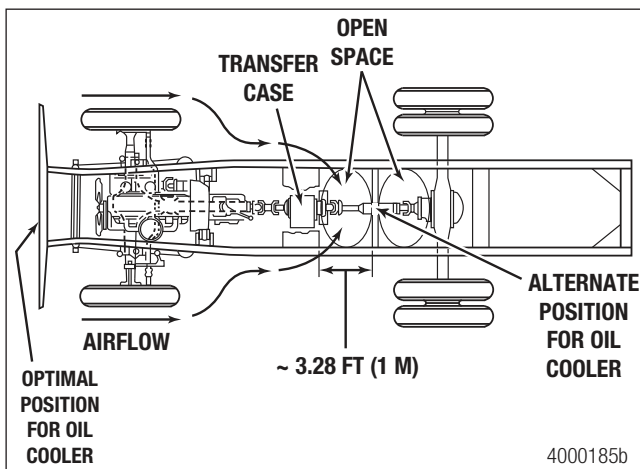

Figure 1
Check the vehicle equipment manufacturer recommendations for oil cooler placement before mounting the cooler. The suggested airflow rate through the heat transfer media is 1,000 FPM. Additionally, the oil cooler should not have any objects located immediately in front of or behind the oil cooler that could reduce air flow through the cooler. Figure 1.
4. Mount the oil cooler. Refer to Figure 1.
6. Route and secure the oil lines along the frame rails and chassis. Refer to Figure 1.